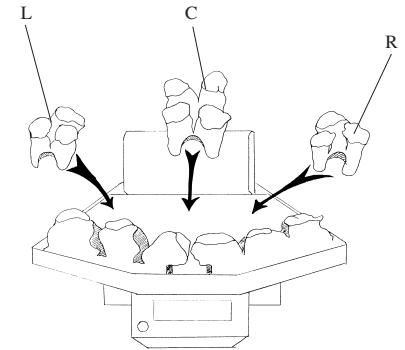

fig.2
3. Place the left hand (L), centre (C), and right hand (R) main coal beds at the rear of the burner plaque, up against the ceramic rear plaque (fig.2), space the 3 coals evenly apart from left to right. There should now be a gap between the main coal bed, and the rear of the front coal matrix.